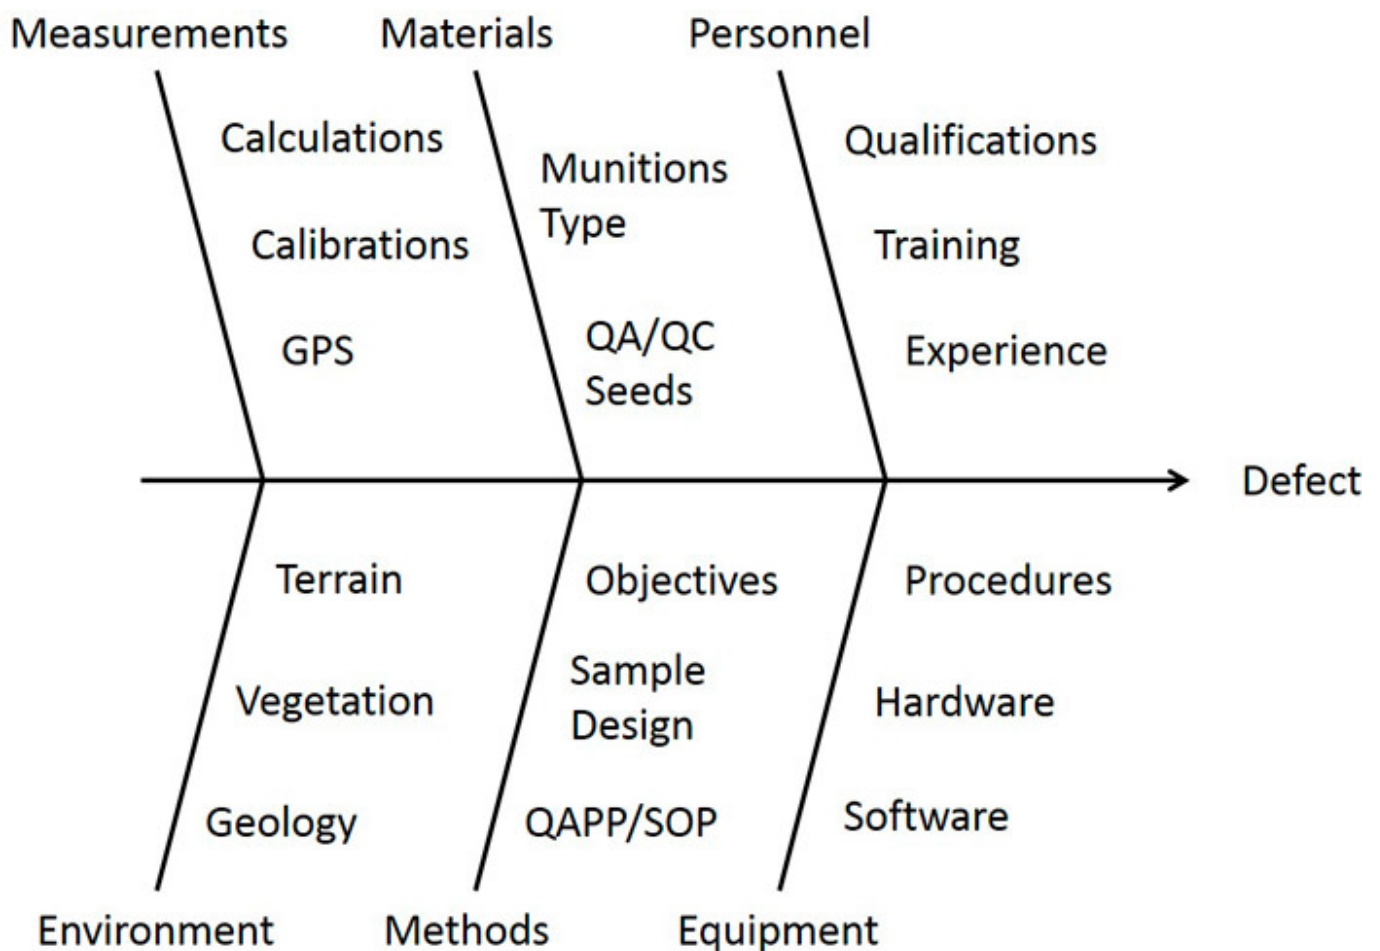

Figure 9-14. Example Ishikawa (fishbone) diagram
2. Ask why the problem happens and write the answer down below the problem. An Ishikawa Diagram (fishbone) is helpful in diagramming the 5 Whys process; see Figure 9-14. (*Geophysical sensor did not pass over the blind seed. Geophysical equipment was not functioning properly. Data were not processed correctly. Blind seed was buried incorrectly, for example, too deep or masked by another metallic object.*).